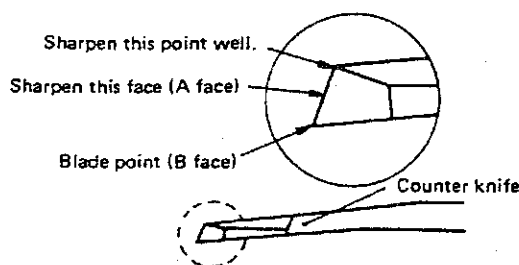

Fig. 30
- The sharpness of the thread trimmer is improved simply by sharpening "A" shown in Fig. 30 (Pay attention to the angle shown in Fig. 30).